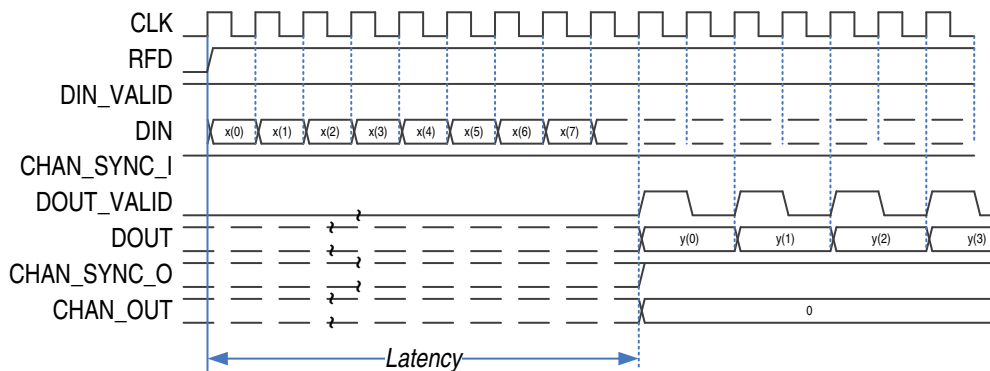
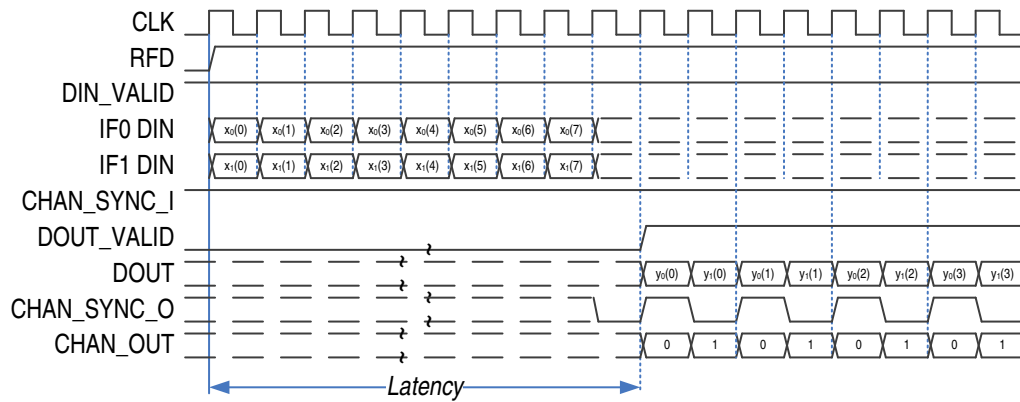

Figure 24 Decimation CIC Timing - Single Channel, Data Permanently Valid
Figure 27 Decimation CIC Timing - Two Interfaces, Data Permanently Valid
Figure 24 to Figure 27 show a few examples of decimator timing diagrams. The fixed downsampling rate $R_RATE = 2$ for all the examples, that is the decimator outputs one sample for every two input samples. The timing diagrams show time intervals immediately after the RFD goes High in response to the NGRST or RST signals issued earlier. This is done to illustrate the Latency time. The timing relations between the signals stay the same indefinitely after.
Figure 24 shows a timing diagram for a single channel decimator where data samples come at every clock cycle. It is assumed that the filter has been reset earlier so, that the RFD signal is active. Data samples $x(0)$ and $x(1)$ are coming to the DIN input at every clock cycle from when DIN_VALID goes High. CHAN_SYNC_I for the example should be indefinitely active, as there is only a single channel.
Figure 27 shows a timing diagram for the two-channel decimator that has two interfaces, IF_NUM = 2. Data from the channel x0 comes to the lower bits of the DIN input (see section 8.3). It is called IF0 DIN, refer to Figure 27. Data from the channel x1 comes to the upper bits of the DIN input named IF1 DIN. For this example, CHAN_SYNC_I stays High, as each interface does not utilize time share (CLK_PER_SAMPLE = 1). After Latency interval, the core raises DOUT_VALID and starts outputting the decimated samples: y0(0) is calculated based on the two samples x0(0) and x0(1), y0(1) is based on the samples x0(2) and x0(3), etc. Similarly, the decimated samples of the interface IF1 are calculated. The data from both interfaces appear on the port DOUT. The CHAN_SYNC_O signal marks the output samples originated at the interface IF0. The CHAN_OUT signal indicates the channel that is currently being present at the DOUT port.